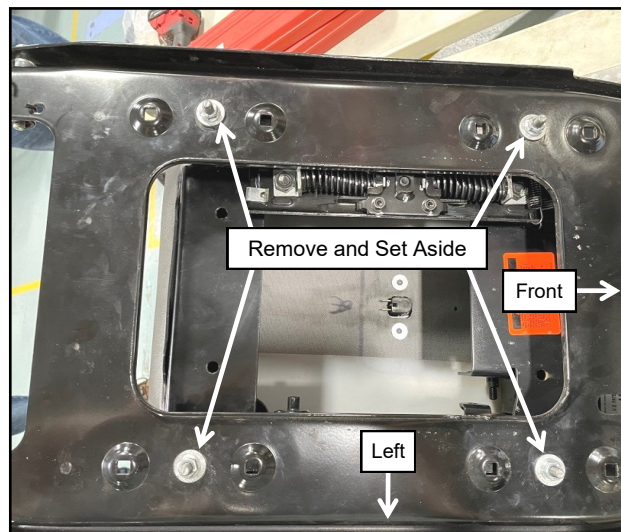

Fig. 1.32 (Remove Seat Frame)
- 1.32** Remove and set aside the (4) nuts and washers holding the seat frame to the seat adjuster rails. Next, remove frame from the seat. See Figure 1.32.
- 1.34** Place supplied seat pan assembly onto seat. Next, re-install seat frame onto the seat pan. Loosely install OEM washers and nuts back on. Fully tighten left side hardware first followed by the right side. See Figures 1.32 and 1.34.